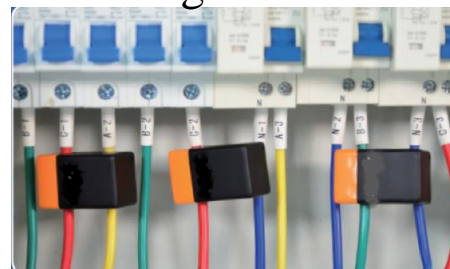

Figure 5
- Prototype using induced current (Figure 5) [11]